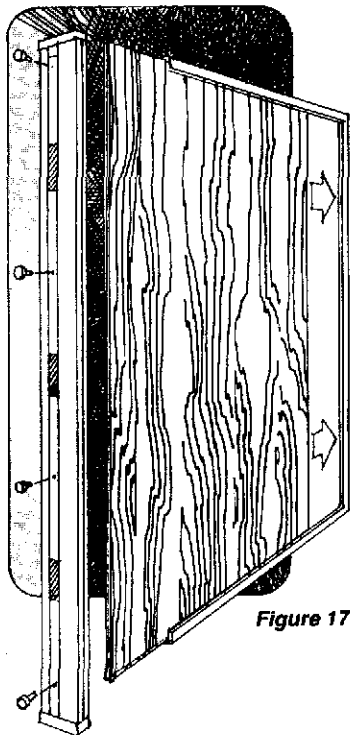

Figure 17
**C)** Slide panel into frame on door as shown in Figure 17.
**B)** With standard Phillips screwdriver, remove door handles on freezer and refrigerator doors (door handles also act as a door trim, see Figure 17).
**G)** Install door panels by sliding into frame on door as shown in Figure 17.